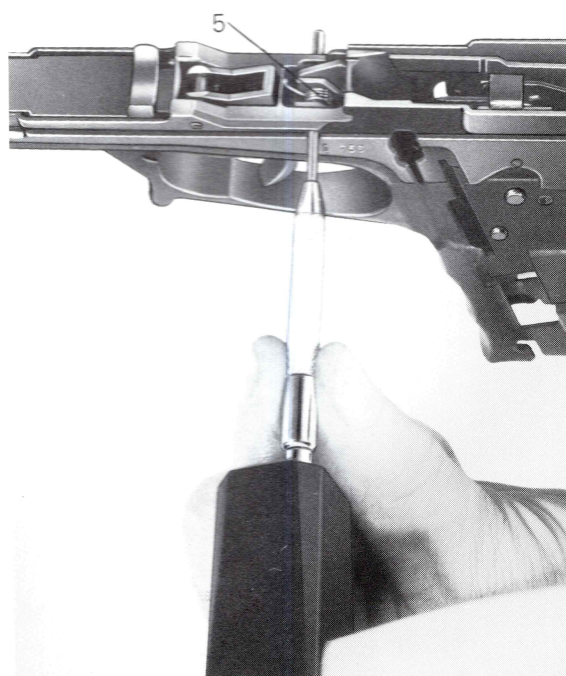

Fig. 25
- Drive out cylindrical pin (6) for the trigger (Fig. 25), remove the trigger spring (5), disconnect the pull bar (18) and the trigger bar (19) from the trigger (4) and remove.